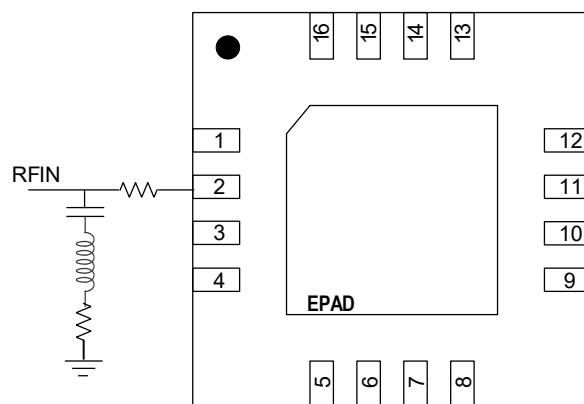

Figure 47. Recommended RF Input Circuit Implementation for Large-Signal Linearity Optimization – 3600MHz to 4200MHz Range
For optimized large-signal linearity when operating near and above compression levels in the 3600MHz – 4200MHz frequency range, it is recommended to implement the RF input circuit as shown in Figure 47. See F1485 Application Note for more information.
The ground should be solid ground planes. The ground paddle should be connected to other ground planes adjacent to the bottom and corners of the device on the top layer and it is recommended to have it connected to all the NC pins on the top layer as well to ensure optimal performance. Place more vias around the part where possible. Figure 47 shows additional recommended placement of ground vias:
- Flood the area with ground vias between RF_IN and VCC traces (Area 1 in Figure 47).
- Flood the area with ground vias between RF_OUT and Vcc traces (Area 2 in Figure 47).
- Flood the area with ground vias between RF_OUT and V_{BIAS} traces (Area 3 in Figure 47).